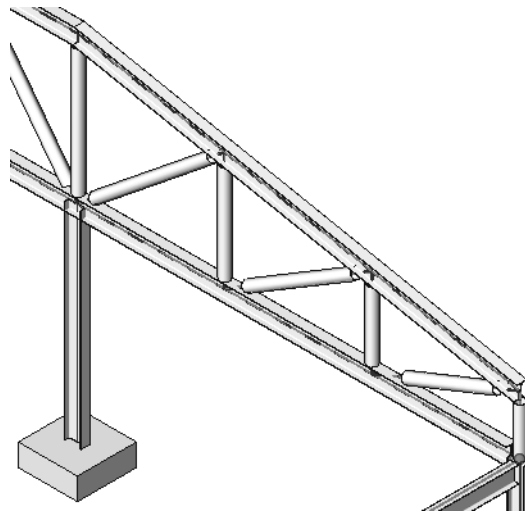

Figure 7-73
5. Where do you assign the structural member types and sizes for the components of a truss, such as that shown in Figure 7-73? (Select all that apply.)